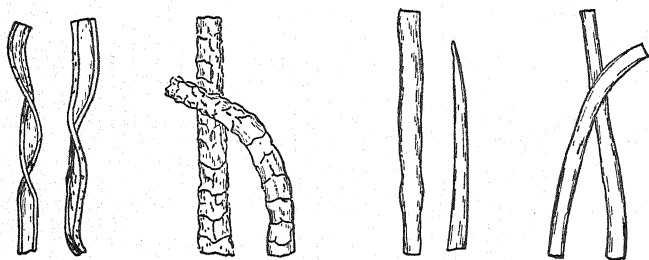

FIG. 374. — Fibers of cotton, wool, linen, and silk.
**679. The Textile Fibers.** Several different kinds of fibers are used extensively in the textile industry. *Silk* and *wool* are animal fibers that contain nitrogen in addition to carbon, hydrogen, and oxygen. Wool also contains sulfur. *Linen* and *cotton* are nearly pure cellulose. The compound microscope furnishes the best method of identifying the different kinds of fibers. (See Fig. 374.) Under the microscope, wool appears scaly; the cotton fibers are flat and twisted; the